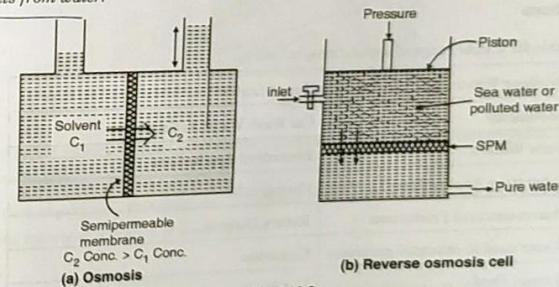

Fig. 6.13.2
- Normal osmosis process, is shown in Fig. 6.13.2, where the solvent flows from low concentration solution to higher concentration solution, through the semipermeable membrane, until difference in water levels creates a sufficient pressure to counteract the original flow. The difference in levels represents osmotic pressure of the solution.